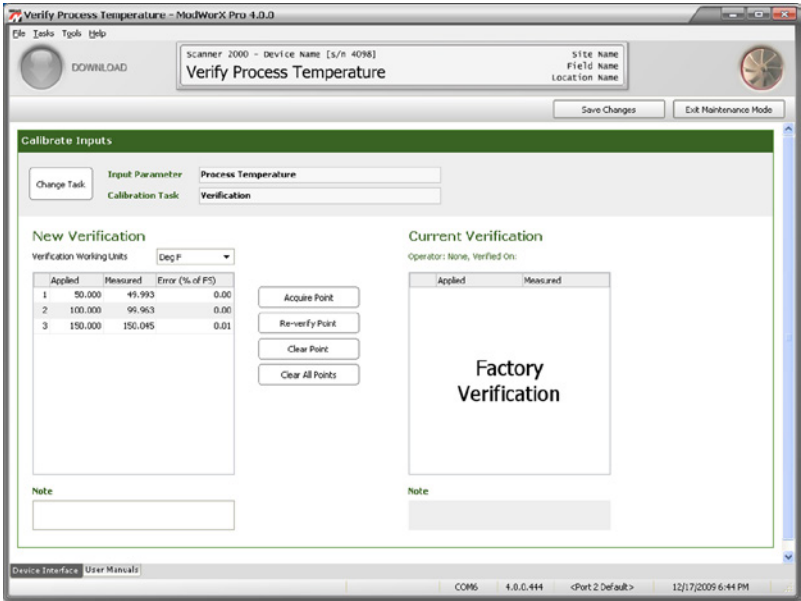

Figure 8.23
9. When a measured value is indicated, click **OK** to save the verification and return to the Verify Process Temperature screen (Figure 8.23, page 120). The New Calibration table is updated with the applied temperature, the measured temperature, and a percentage of error. The percentage of error is expressed as a percentage of full scale, and is calculated with respect to the applied value.